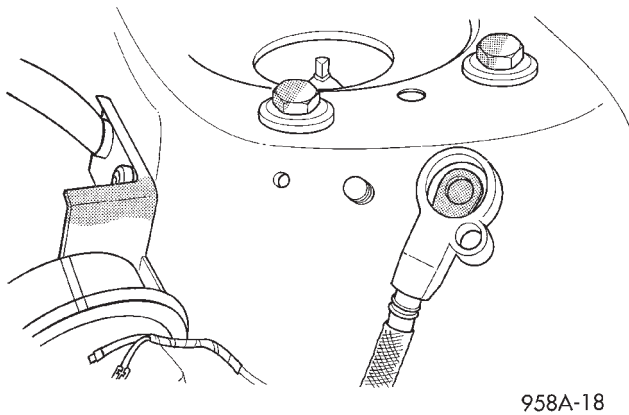

Fig. 71 Battery Negative Cable Remote Terminal Location
- (1) Disconnect negative cable from remote battery jumper terminal (Fig. 71).